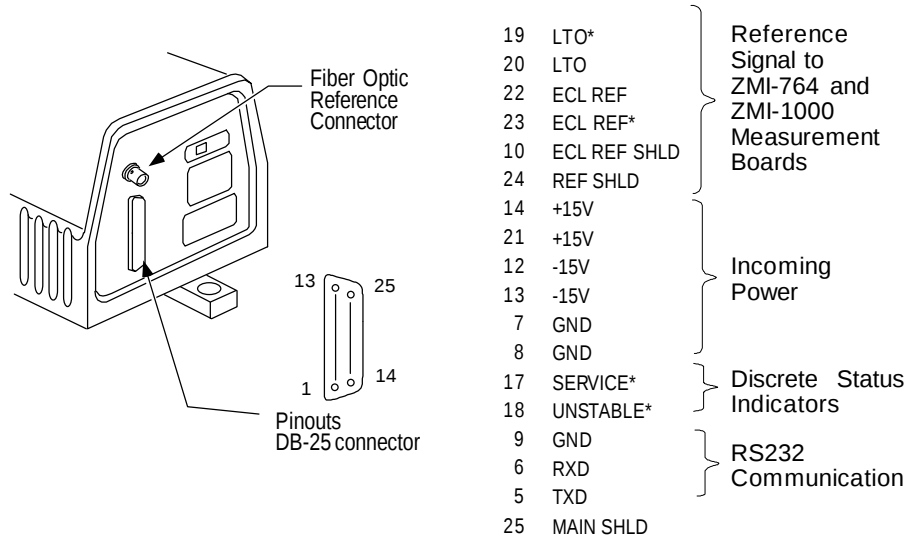

Figure 2-3 Laser Head Connector Pinout
6. Connect the laser cable to the Laser Head to supply the head with ± 15 volts. For use with ZMI-764 and ZMI-1000 Measurement boards, this same cable carries the reference signal to the Measurement board. For use with the ZMI-2000 Measurement board family, connect a fiber optic cable (Zygo P/N 8020-0410-XX) from the Laser Head to the Measurement board for the reference signal. The pinout of the Laser Head connector is shown in Figure 2-3.